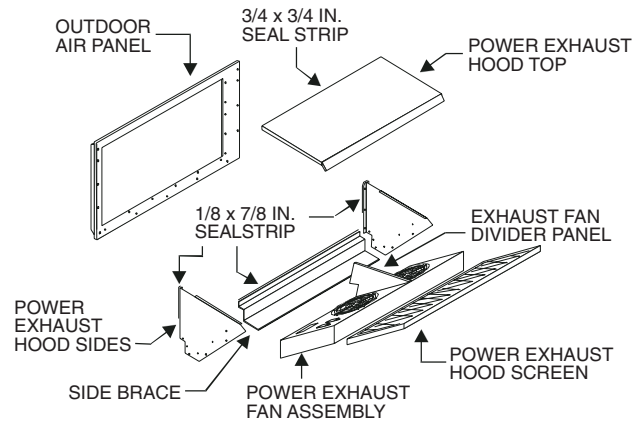

Fig. 23 — Power Exhaust Hood Assembly
1. Install the 3/4 x 3/4 in. seal strip on the top panel of the power exhaust hood. Install the 1/8 x 7/8 in. seal strip on the power exhaust hood side panels and bottom panel. Assemble the power exhaust side panels, then bottom panel as shown in Fig. 23.